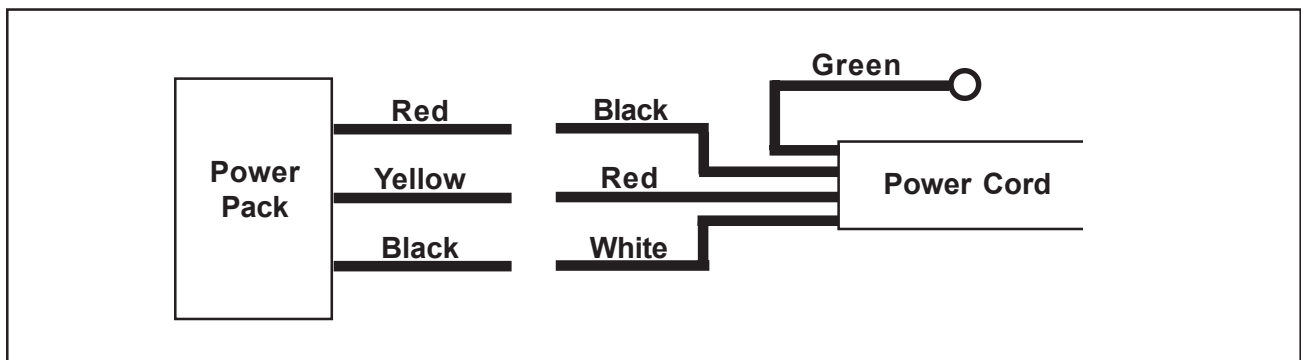

Figure 45. Wire Connections Between Power Cord and Hydraulic Power Pack
7. With three new 14/16 ga. butt-joint wire connections, connect the power cord wires to the wires in the power pack as shown in Figure 45. **Note:** The wires do NOT connect color to color (black-to-black, red-to-red, etc.).
8. Secure the green wire (and the green/yellow wire from the motor) to the ground screw (Figure 45).